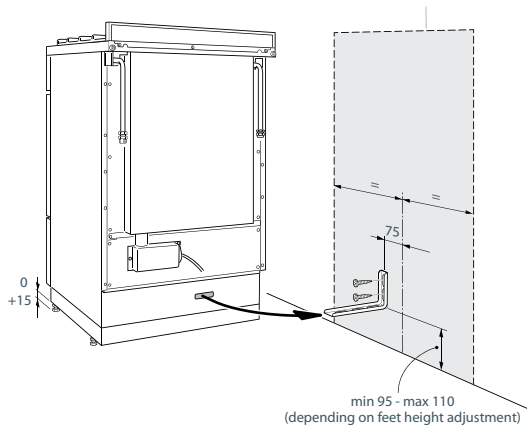

Fig. 6a Fitting the anti-tilt bracket
- 1 After you have located where the cooker is to be positioned, mark on the wall the place where the two screws of the anti-tilt bracket have to be fitted. Please follow the indications given in Fig.6a.
- 4 Move the cooker to the wall and adjust the height of the anti-tilt bracket so that it can engage in the slot on the cooker's back, as shown in Fig.6a.